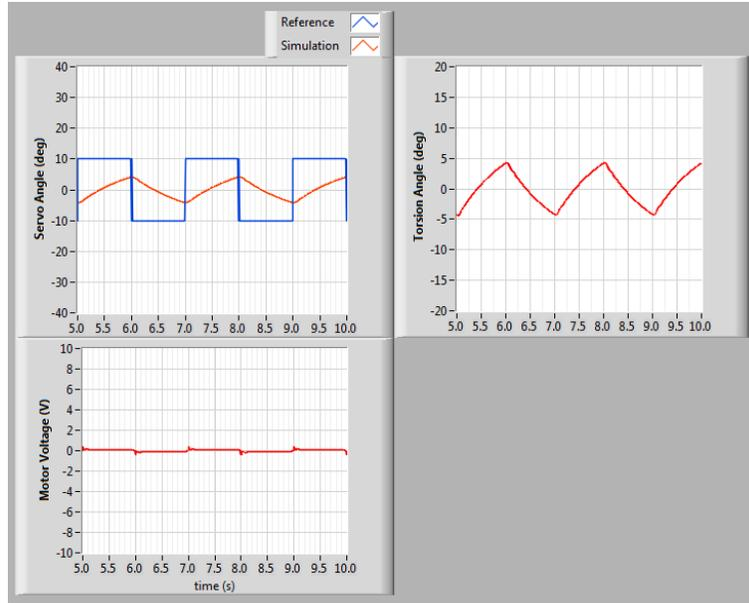

Figure 3.3: Default Simulated Closed-Loop Response
- The closed-loop response with this gain and the default model. See Figure 3.3 for the typical response.